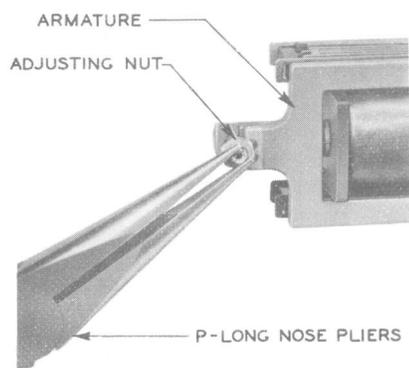

Fig. 12—Method of Tightening Adjusting Nut on Stud
3.08 Adjusting Nut Tightness: (Reqt 2.08)—To tighten loose adjusting nuts, back off the adjusting nut from the adjusting stud using the 474A wrench until its slotted portion is free of the stud. Then force the slotted parts of the nut closer together using the B long-nose pliers as shown in Fig. 12.